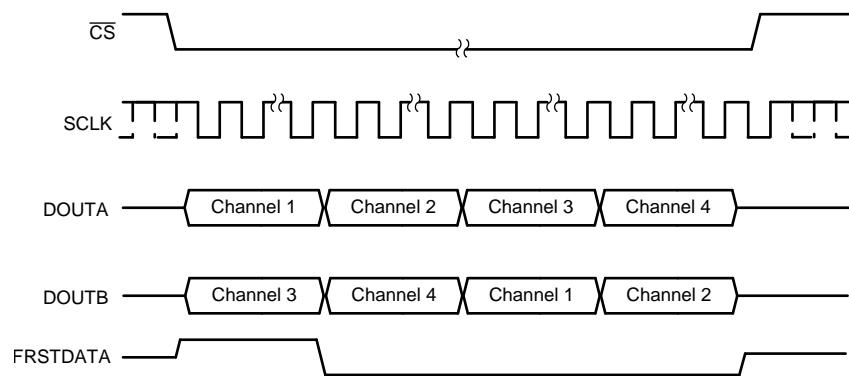

Figure 69. Data Read Back in the Serial Interface Using Either DOUTA or DOUTB Timing Diagram
- The conversion data can be read out of the device using only one of the two serial output lines, DOUTA or DOUTB. In this case, using DOUTA for output data read back is recommended because channel 1 data appear first on DOUTA followed by the data for other channels in ascending order. To read the data for all channels, provide a total of $16 \times 4 = 64$ SCLK cycles for the ADS8584S. This entire data frame can be created within a single $\overline{\text{CS}}$ pulse or each group of 16 SCLK cycles can be individually framed by the $\overline{\text{CS}}$ signal. The primary disadvantage of using just one data line for reading conversion data is that the throughput is reduced if a data read operation is performed after conversion. Figure 69 shows this operation.
- Alternatively, only DOUTB can be used for reading the conversion data from all channels. In this case, everything else remains the same and the output bit stream contains data for all channels in the following order: channels 3, 4, 1, and 2 for the ADS8584S. Figure 69 shows this operation.